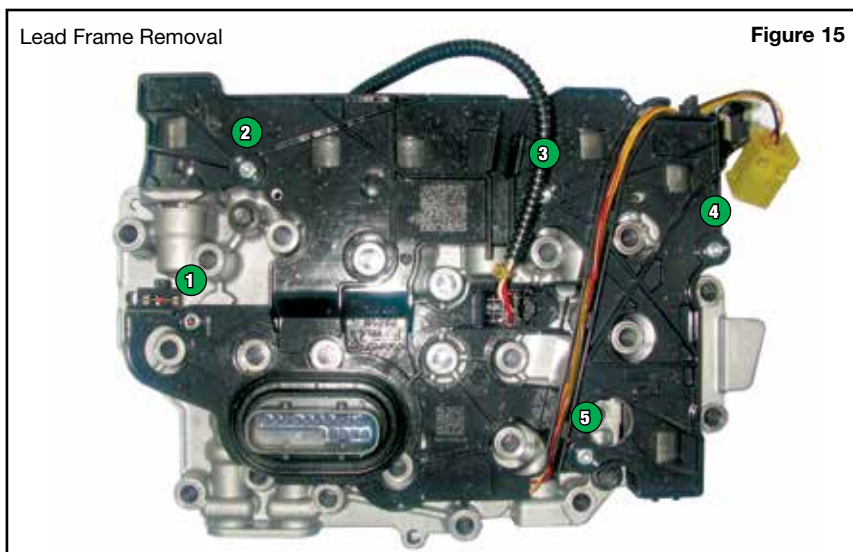

Figure 15
- To remove lead frame from valve body, remove five small screws (green), (Figure 15).
- c. Attach lead frame to solenoid body assembly using five small screws (**Figure 15**).